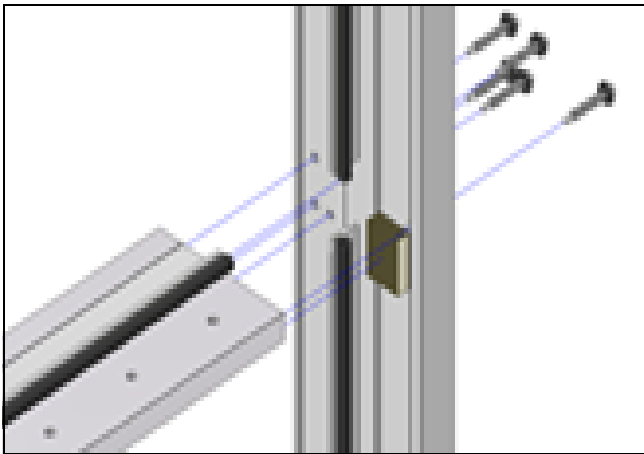

Figure 11
6. Assemble Transom to Jamb using #12 x 1-1/2" Neo Washer Hex head screws. See Figure 11.